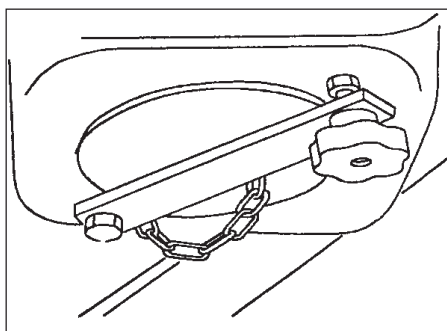

Figure 40
7. Close and secure the lower cleaning port cover on the recovery tank (see figure 40).